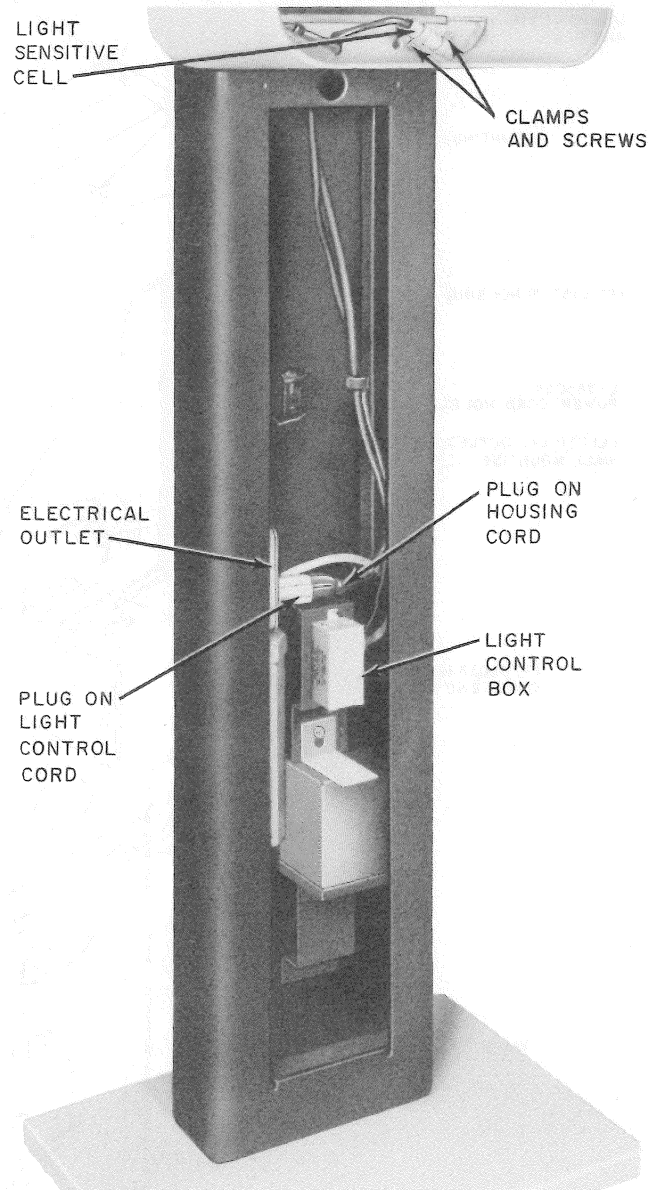

Fig. 20—KS-19261, List 4 Light Control Unit Installed With Single List 31 Housing
- (b) Install the KS-19261, List 4 light control box on mounting bracket in lower right portion of post (Fig. 20).